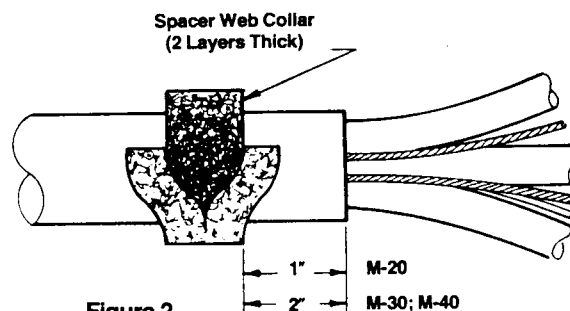

Figure 2
1. Wrap on spacer web collar per Figure 2; build it 2 layers thick and cut off.